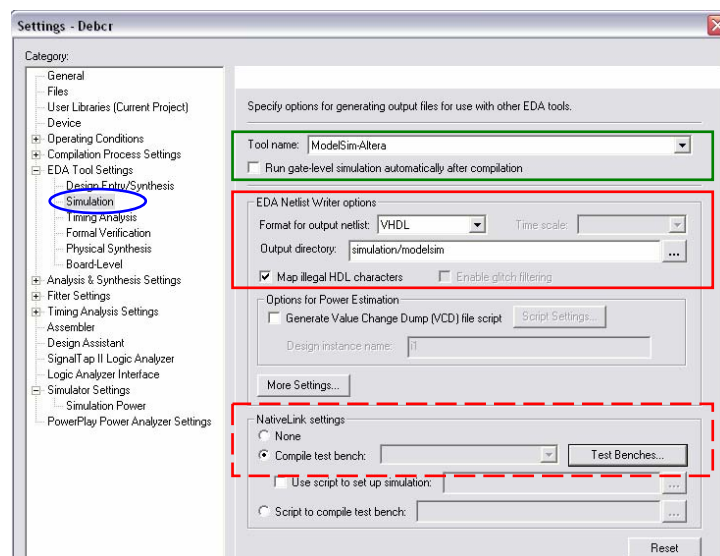

Figure 4: Settings dialog box for functional simulation
- Select **Simulation** from the **EDA Tool Settings** list (highlighted in blue in figure 4);
- Select **ModelSim-Altera** from the **Tool name** box (highlighted in green in figure 4);
- In the **EDA Netlist writer** options select **VHDL** as **Format for output netlist** (highlighted in red in figure 4);
- In the **NativeLink settings** box select the appropriate testbench file; creation an setup of a testbench file is explained in 3.2.4 (highlighted in red dashed line in figure 4);
Figure 4 reports the Settings dialog box: